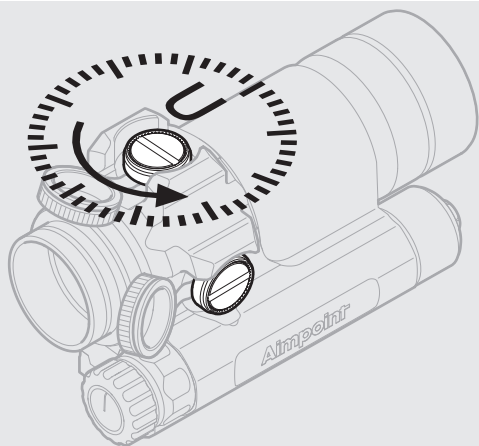

Fig. 4 Elevation adjustment
- f Elevation adjustments (see Fig. 4):